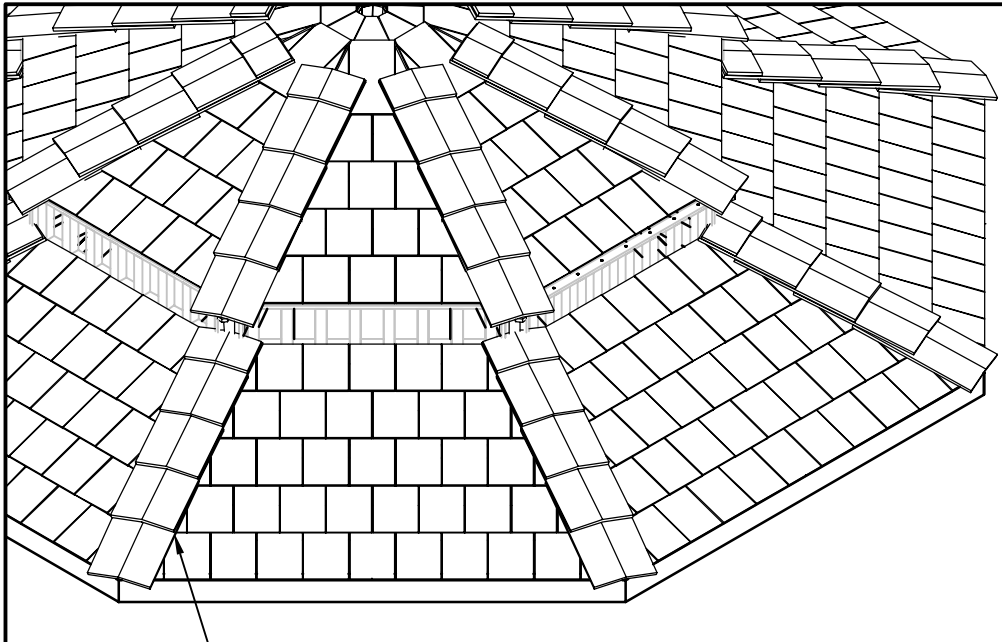

FIGURE S26
- The Ridge Caps are placed over the Long Roof Rafters and cover the seam between any two Roof Panels. See Figure S26. Note that the Ridge Caps are installed from the bottom up. Place the first Ridge Cap with the bottom edge $\frac{1}{2}$ " beyond the outside edge of the Shingles. Using 2" roofing nails, fasten the Ridge Cap to the Shingles.